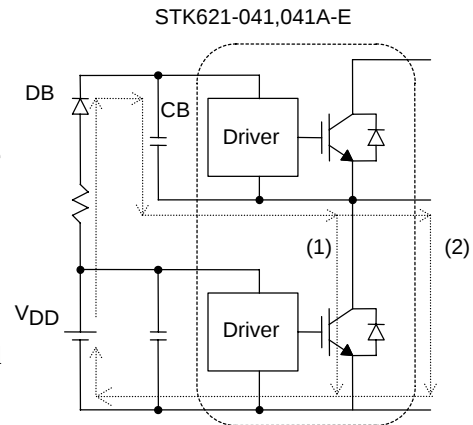

Figure 3 Bootstrap circuit and charge path
| Diode forward voltage                    | V F        | I O =-10A                               | Upper side |     | 1.7   | 2.3 | V    | Fig.3        |
(4) VB1, VB2 and VB3 pins
These pins connect the positive power supplies for the upper-side power device pre-driver circuits. The three control power supplies each require an electrically insulated floating power supply. In addition to the method that uses three independent power supplies, this power supply can also be configured using the bootstrap circuit shown in Fig. 3. As shown in this figure, CB has a path (1) that is charged when the lower-side device is ON, and a path (2) for motor regeneration mode. The CB section voltage fluctuates according to the switching frequency and duty ratio of the external control circuit. Therefore, the CB capacitance value must be set in consideration of the voltage fluctuation. DB should use a high-speed type FRD with a fast  $t_{tr}$  and  $VR = 600V$ . RB is used to limit the rush charging current during CB initial charging. Note that a large rush charging current may cause the internal circuits to malfunction. CB can also be charged before startup by connecting high-value resistors to the output pins and minus pins. (Care must be taken for the withstand voltage and the power.)